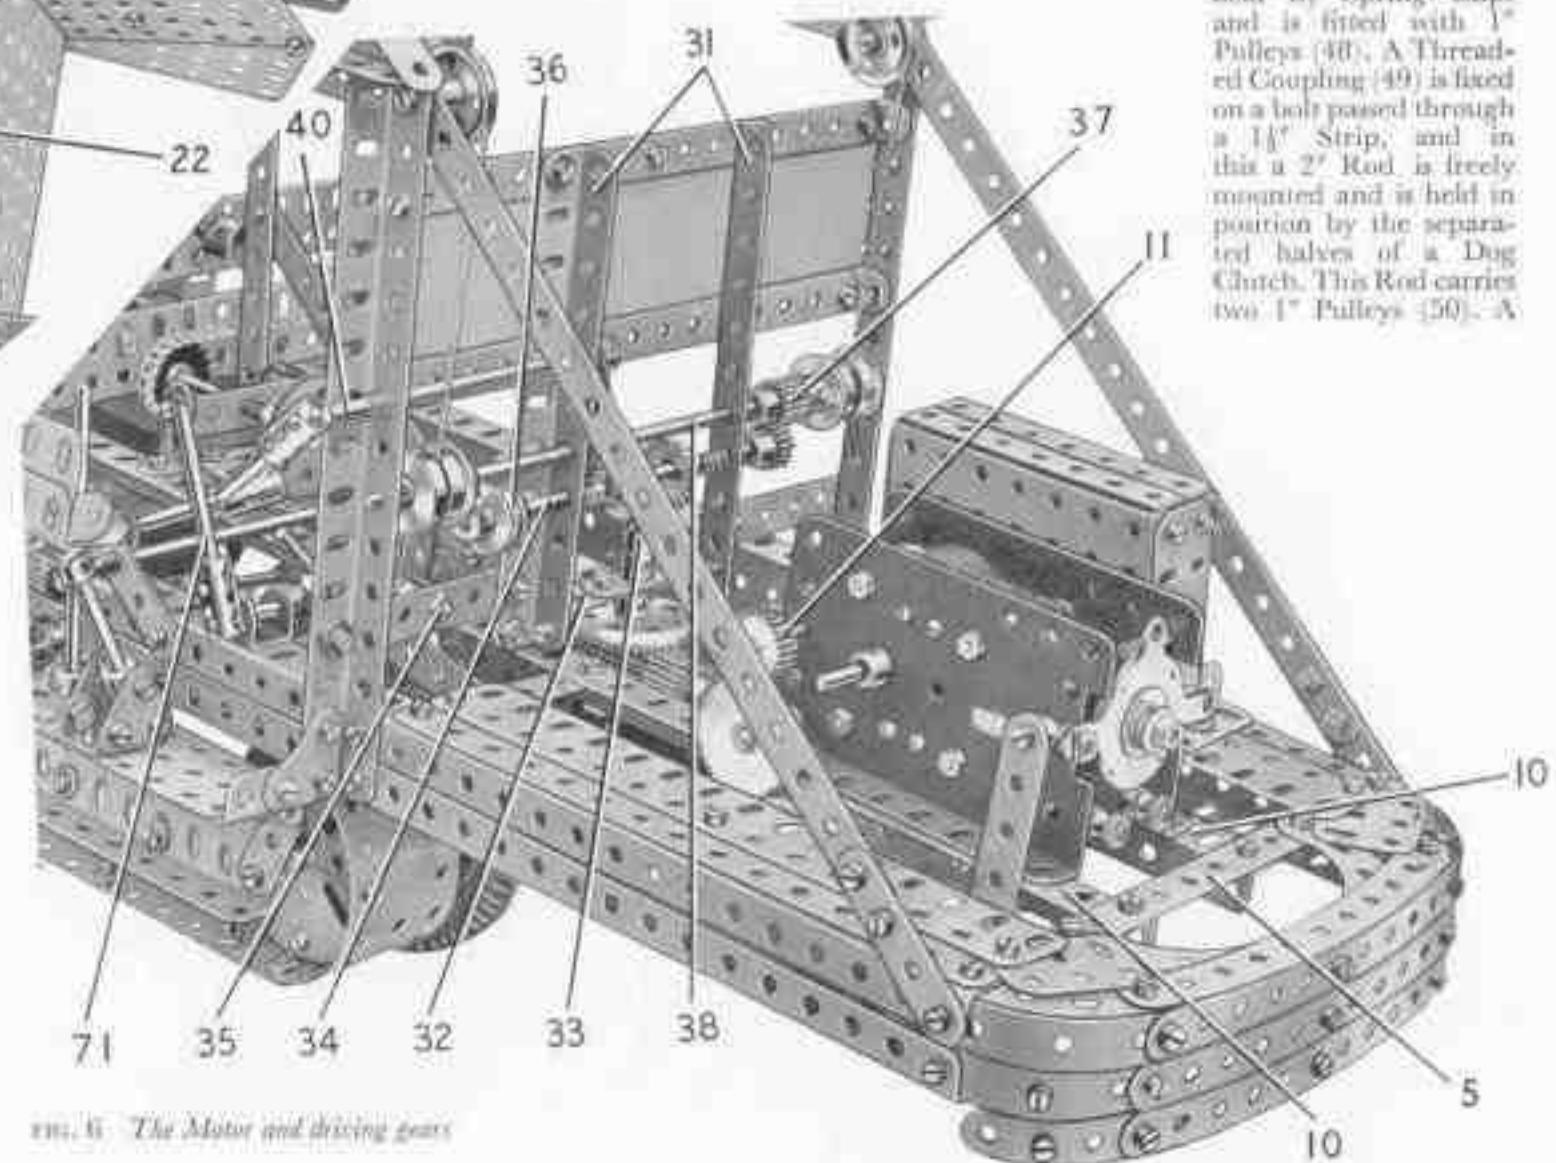

FIG. 6 The Motor and driving gears.
An E15R Electric Motor is bolted by its flanges to the Girders (10) (see Fig. 6) and a pin. 2
$\frac{1}{2}$ " Pinion on its armature shaft drives a 60-tooth Gear (see Fig. 2) on a $3\frac{1}{2}$ " Rod mounted in the Motor side-plates. This Rod carries a $1\frac{1}{2}$ " Pinion (11) (Fig. 6) that drives a 50-tooth Gear on a $2\frac{1}{2}$ " Rod. A Worm (12) (Fig. 2) fixed on this Rod engages a $1\frac{1}{2}$ " Pinion on an $11\frac{1}{2}$ " Rod (13). The bearings for Rod (13) are provided by a Double Arm Crank (14) and a $1\frac{1}{2}$ " Strip, each of which is attached to the Girders (10) by two Angle Brackets. The $1\frac{1}{2}$ " Strip is positioned immediately behind a $1\frac{1}{2}$ " Pinion (15) (Fig. 6), fixed on the Rod, which carries also a $\frac{1}{2}$ " diameter $\frac{1}{2}$ " face Pinion (16) and a $\frac{1}{2}$ " Bevel Gear (17).
Two $5\frac{1}{2}$ " Angle Girders (31) are connected to the Girders (10) by Corner Angle Brackets, and each is joined to one of the Girders (2) by a $1\frac{1}{2}$ " Strip. The Girders (31) are connected by two $5\frac{1}{2} \times 2\frac{1}{2}$ " Flexible Plates overlapped seven holes and edged by two $7\frac{1}{2}$ " Strips. These are attached to the Girders (2) by Angle Brackets. A $2\frac{1}{2} \times 1\frac{1}{2}$ " Double Angle Strip (32), with a Double Arm Crank bolted to it, is fixed between the lower ends of the Angle Girders (31) (Fig. 6).
A 1½" Contrate that meshes with the Pinion (16) (Fig 6) is fixed on a 1½" Rod free in the Double Angle Strip (32) and in the boss of the Double Arm Crank. A ½" Pinion (33) is fixed on the upper end of the Rod. A cross shaft (34) is fitted by a 5" Rod mounted in the Girders (31), and this carries two 1" Contrates arranged one on either side of the Pinion (33), with a Compression Spring between each Contrate and one of the Girders (31).
The movement of Rod (34) is controlled by a Bell Crank mounted on a Pivot Bolt (35) (Fig. 6). One arm of the Bell Crank is extended by a 1" Rod held in a Handrail Support, and a Threaded Pin is fixed in the other arm. The Threaded Pin engages a $\frac{1}{2}$ " Face Pulley (36) with a $\frac{1}{2}$ " Washer and a Collar on either side of it. A 3" Pinion on Rod 34 drives a $\frac{1}{2}$ " diameter, $\frac{1}{2}$ " face Pinion (37) on an 8" Rod (38). This Rod carries two pairs of $\frac{1}{2}$ " Flanged Wheels and a Ratchet Wheel (39). A Pawl on a $\frac{1}{4}$ " Rod (40) engages